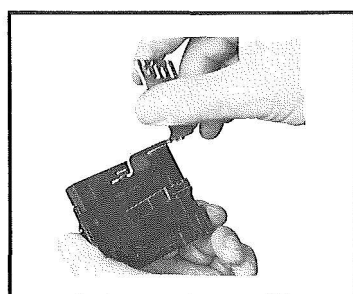

Figure 2. Installation of mounting bracket used on CR305, 306, & 360L.
6. Insert dove-tail bracket into keyed slot at top of the molded cover as shown in Figure 2. Reassemble starter (or contactor).